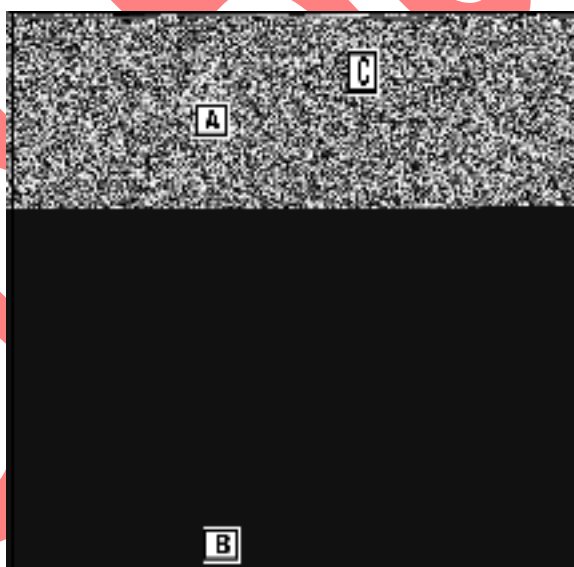

Fig. 74
Remove fixed main (B) jet from end of fuel pick up tube first, Fig. 74, then remove the emulsion tube ([A] Fig. 74).